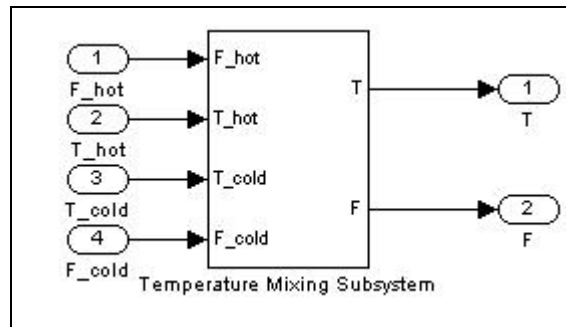

Figure 2.
- d) Resize the subsystem and move the inports and outports so they match Figure 2.